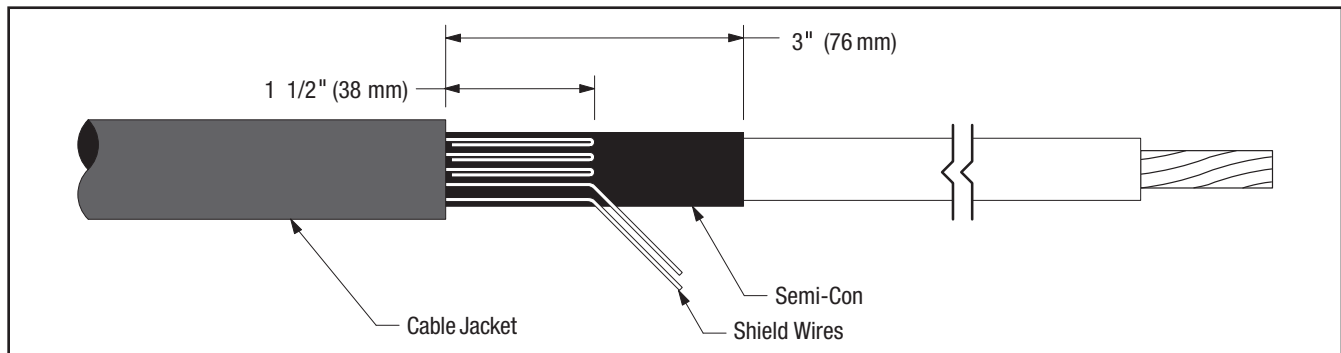

Figure 9
7.3 Bend leading 1 1/2" (38 mm) of exposed shield wires back upon themselves to jacket edge (Figure 9).